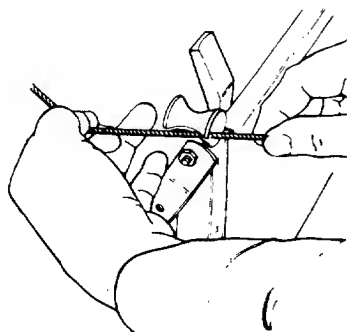

FIGURE 12.
5. **Models 836R thru 838R:** If not already assembled, slip the starter rope into the rope guide as shown in figure 12.